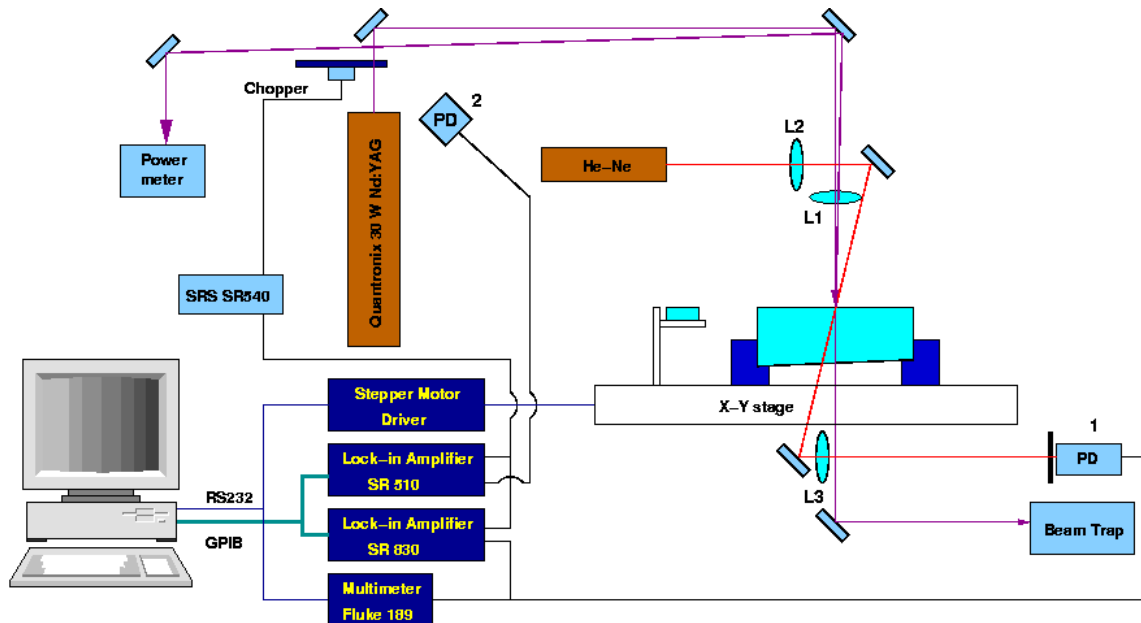

Figure 3: Schematic of the absorption measurement setup
- 8) Set up the photo detector (PD -1 in Fig. 3) with a pinhole of ~ 200 μ m installed.
The CPI method is a relative measurement. The measured photo thermal signal of a sample should be calibrated by comparing it with that of a contamination cavity mirror. The HR coating absorption of the calibration mirror should be measured by fitting the beat frequency change vs the output power, as in T030023. The photo thermal signal is proportional to the IR and He-Ne intensities. These intensities are monitored by a photo diode (PD-2 in Fig. 3) and a multimeter. Both of these signals should be taken into account in the calibration. There are 4 DAQ channels, recording into the columns 1-4 of data file the Nd:YAG power, CPI signal amplitude and phase as well as He-Ne probe beam power respectively. Please note the instrument settings are not automatically recorded in the data file.